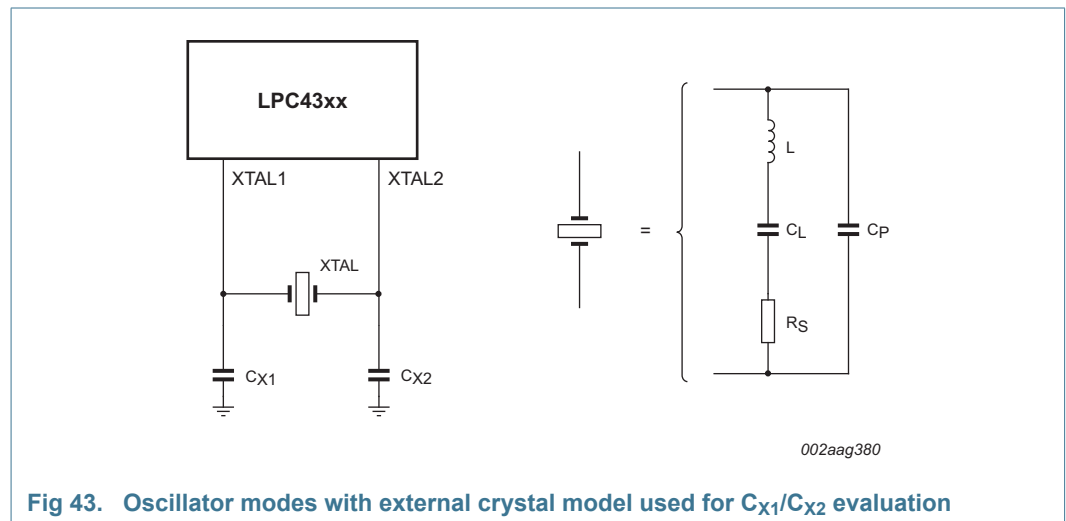

Fig 43. Oscillator modes with external crystal model used for C_{X1}/C_{X2} evaluation
- External components and models used in oscillation mode are shown in Figure 43, and in Table 44 and Table 45. Since the feedback resistance is integrated on chip, only a crystal and the capacitances C_{X1} and C_{X2} need to be connected externally in case of fundamental mode oscillation (L , CL and RS represent the fundamental frequency). Capacitance C_P in Figure 43 represents the parallel package capacitance and must not be larger than 7 pF. Parameters FC , CL , RS and CP are supplied by the crystal manufacturer.